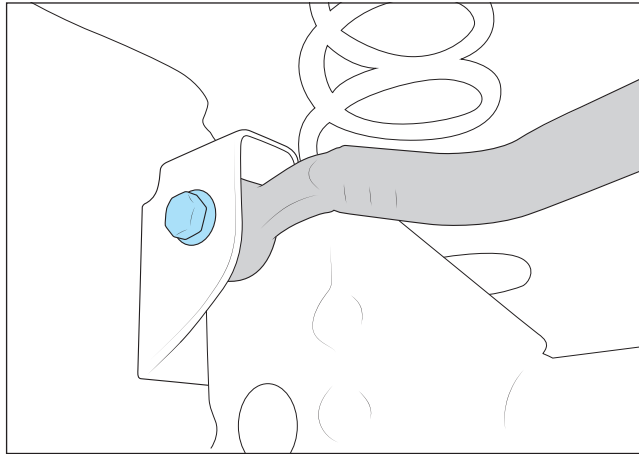

Figure 10
14. Remove axle end track bar bolt and SAVE HARDWARE (fig. 10).